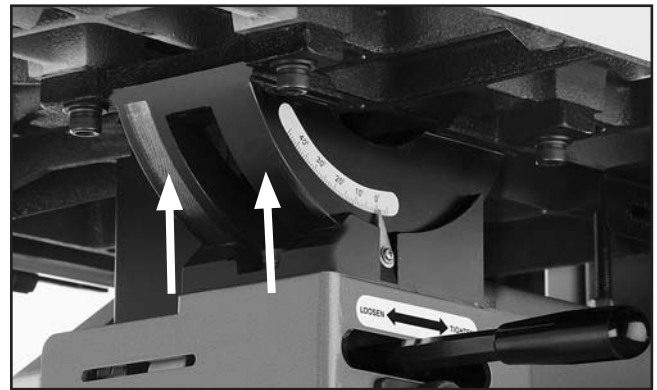

Figure 70. Trunnion lubrication location.
3. Apply a thin coat of multi-purpose GL2 grease to the outside surfaces of the trunnion (**Figure 70**).